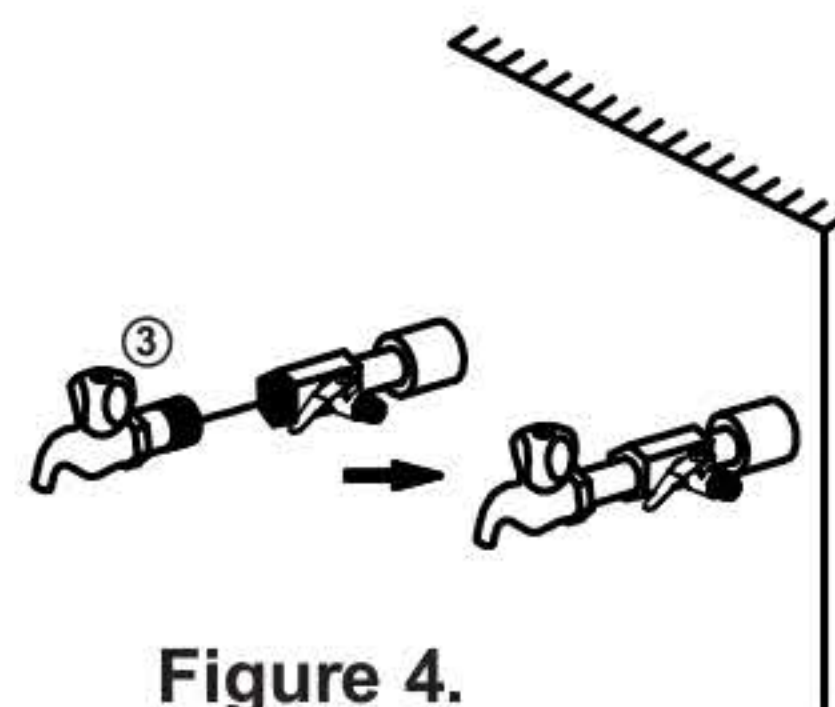

Figure 4.
3. The other end of the 3-way connector can be connected to a tap (marked as no. 3) as shown in figure 4. or can be plugged off if not required.